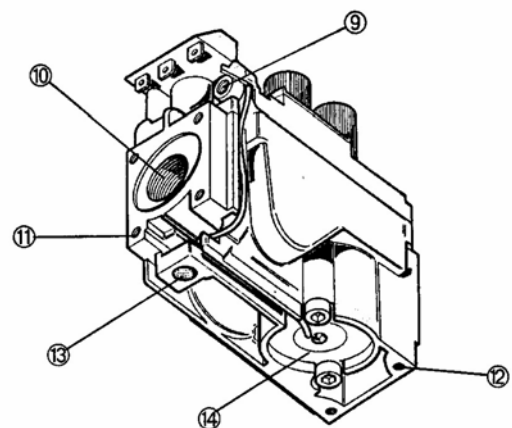

Figure 15: Gas Control Valve Detail
Pressure Measurements: To measure the gas pressures, connect a manometer to the gas inlet tap (6) and manifold pressure tap (7) in Figure 15.
The pilot light is preset by Hearthstone and should not need adjustment. The pilot light flame must be large enough to engulf the thermopile and thermocouple located next to the pilot, but not so large as to create excessive noise or consume excessive gas (*refer to figure 17*). However, it can be adjusted by means of the pilot light adjustment screw located on the gas control valve (*see Figure 15*). Open the ash lip door to access the pilot adjustment screw. Note that the pilot flame must engulf the thermopile so that the thermopile can generate sufficient milli-voltage (325 to 500-mv) to power the millivolt gas control valve